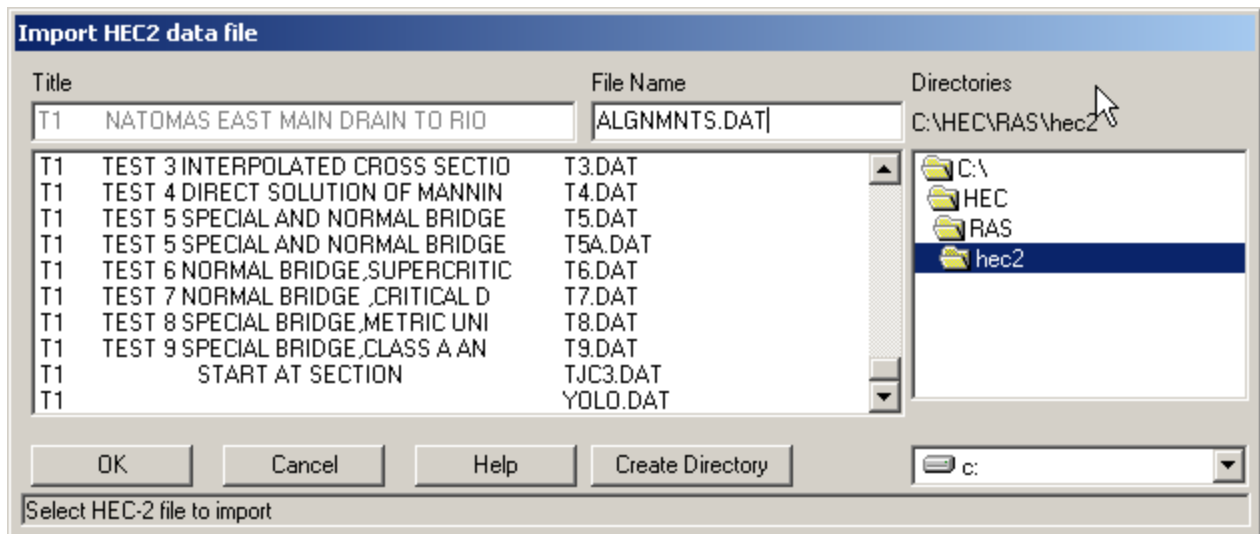

Figure 3.17 Window for Importing HEC-2 Data
2. Select the **Import HEC-2 Data** option under the **File** menu on the main window (Figure 3.16). A pop up window will appear (Figure 3.17), which will allow you to select a drive, path, and filename for the HEC-2 data file. In addition to the filenames being listed, the first line of each HEC-2 data file is shown under the title field on the window. Once you have selected the file you want, press the **OK** button.